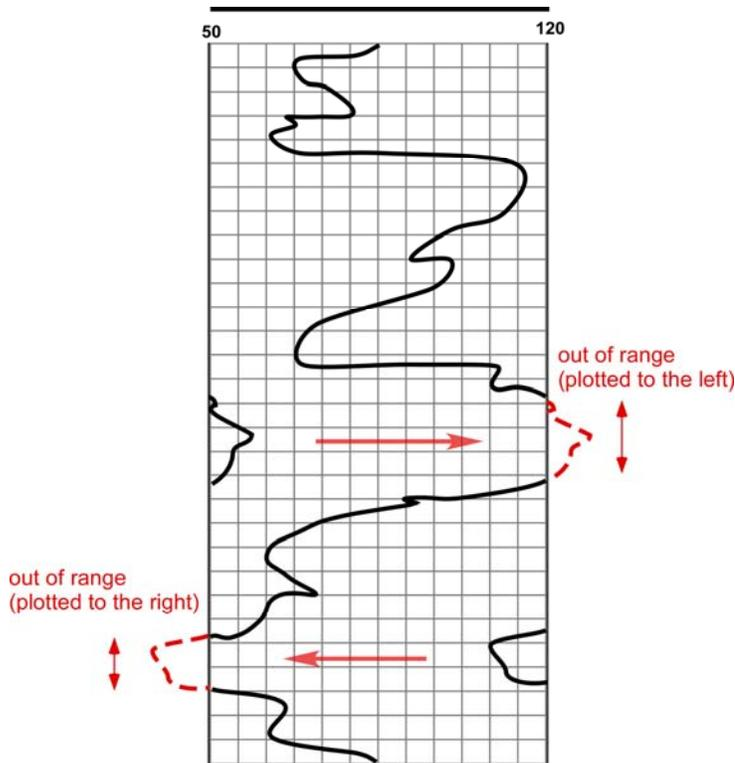

Figure 18, a schematic log with a few points out of range.
i.. If out-of- range behavior exists in the graph and only a few segments are out-of-rang (see example, Figure 18), mentally move the out-of-range data (usually plotted on the other side of the graph) to the correct side and digitize the points approximately. Earlier on the 3 coordinate points have defined the proportions (both vertical and lateral), thus Engauge can find the correct “out-of-range” values for Y. You can open up “Measure Geometry” and check for yourselves at these points. For this examples, the Y value can go up to 130 for the first out-of-range interval, while it goes down to 40 for the second out-of-range interval. (Figure 18). **This procedure can be done only if a few points are out of range.**